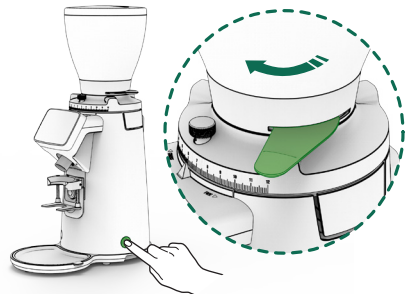

Fig. 4
Plug in the grinder, and press the main power switch (13) to ON position, and open the bean trap (4) to allow coffee to pass into the grind chamber (Fig. 4).